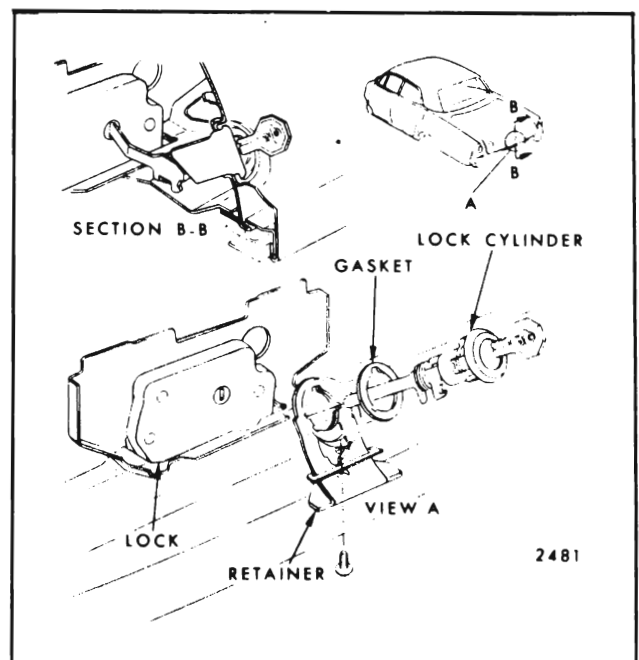

Fig. 8-9—Rear Compartment Lid Lock Cylinder - Chevrolet "B" Shown
1. Open rear compartment lid. Remove lock cylinder retainer attaching screw(s) located on lid inner panel below lock cylinder and adjacent to lid hemming flange (Fig. 8-9).